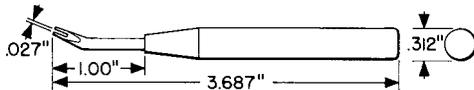

Fig. 15—272 Adjuster Tool
2.15 **272:** The 272 tool (Fig. 15) is a spring adjuster used in adjusting contact and governor springs of Automatic Electric Company dials.